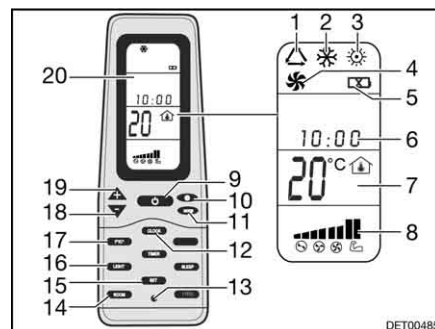

Fig. 198 Remote control
- Press the ON/OFF button (Fig. 198,9).
- Press the "Mode" button (Fig. 198,11) as often as required until the required mode (Fig. 198,1, 2, 3 or 4) is indicated on the display (Fig. 198,20).
- Use the "+" (Fig. 198,19) and "-" (Fig. 198,18) buttons to set the desired temperature.
- Use the fan speed button (Fig. 198,10) to select the desired fan level.